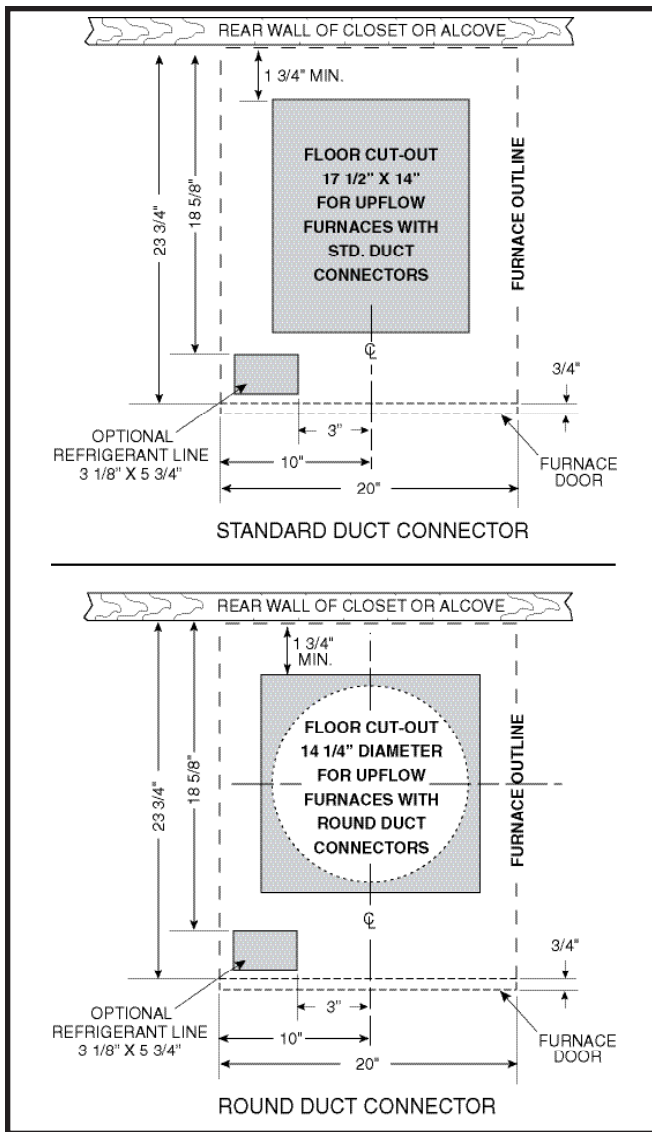

Figure 4. Cut-Out Dimensions for Upflow Furnaces
- Stand (Figure 4 \(page 8\)) must use two filters: one is supplied with the stand and the other MUST be removed from the furnace and placed in the stand. See instructions supplied with the upflow stand for additional details.